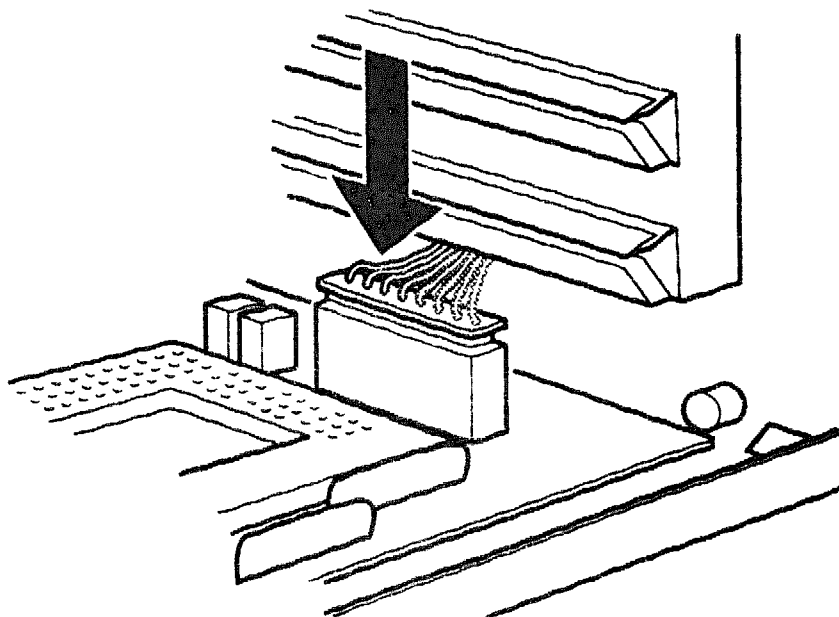

Figure 3-47 - Joining the Ribbon Cable to the CPU Board
4. Connect the small ribbon cable to the CPU Board (Figure 3-47).